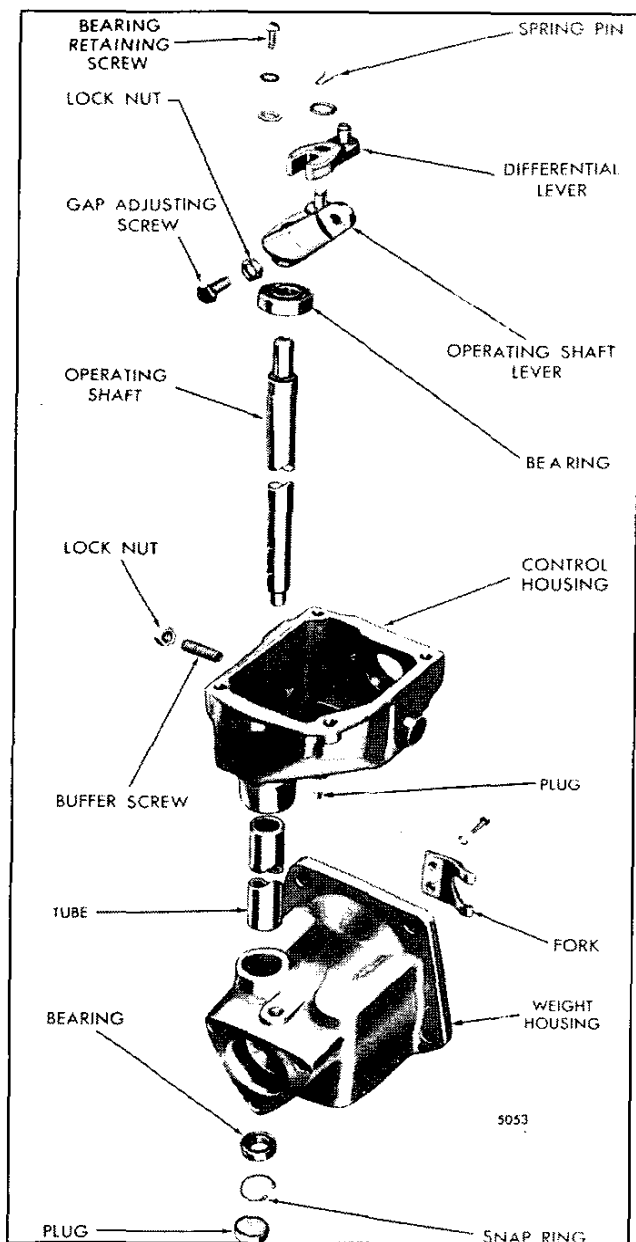

Fig. 9 – Governor Housing and Relative Location of Parts
2. Install the lower governor operating shaft bearing, with the number side facing out, in the weight housing (Fig. 9). Install the snap ring to secure the bearing. Lubricate the bearing with engine oil.
9. Place the differential lever over the pin in the governor operating shaft lever (Fig. 9). Secure the lever in place with a washer and spring pin.